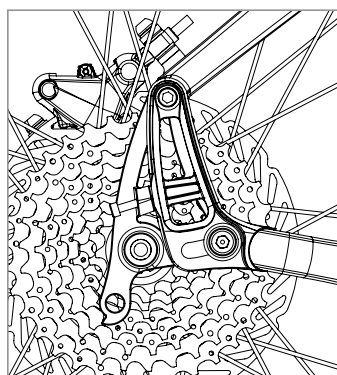

Figure 5
- Push the swing plates all the way forward (FIG 5)